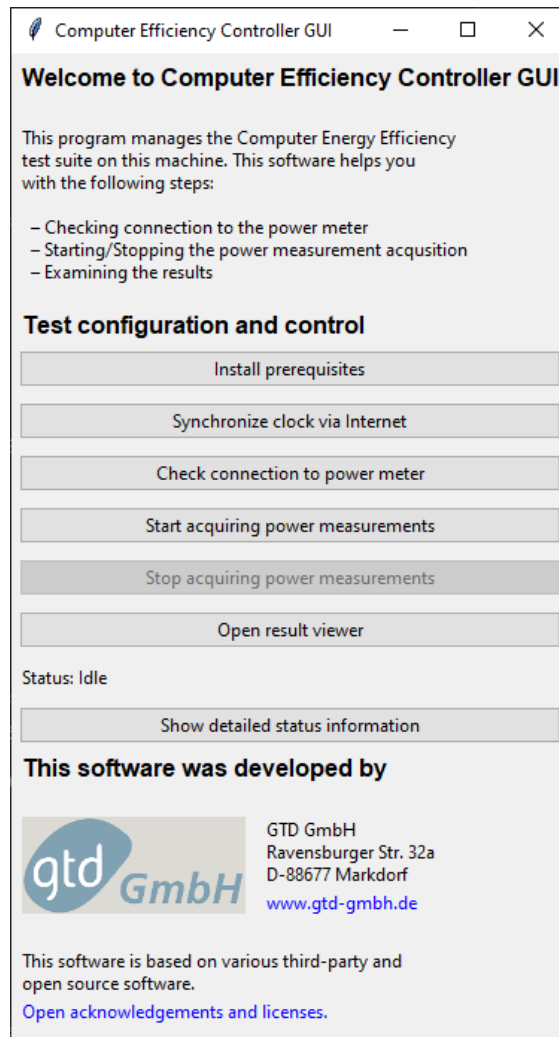

Figure 7.1: Controller Computer GUI
Figure 7.1 below serves as a reference as this GUI is the same for the 3 versions for each supported OS.
- Click “yes” when asked if you want to allow this app to make changes on your computer. The Controller Computer GUI is now displayed (see Figure 7.1)
- Double click the `macosx_controller` file. The Controller Computer GUI pops up (see Figure 7.1)
- Double click the `linux_controller` file. The Controller Computer GUI pops-up (see Figure 7.1). If you get an error message, the reason might be that the USB stick was automatically mounted without execute permissions. In this case do the following steps: